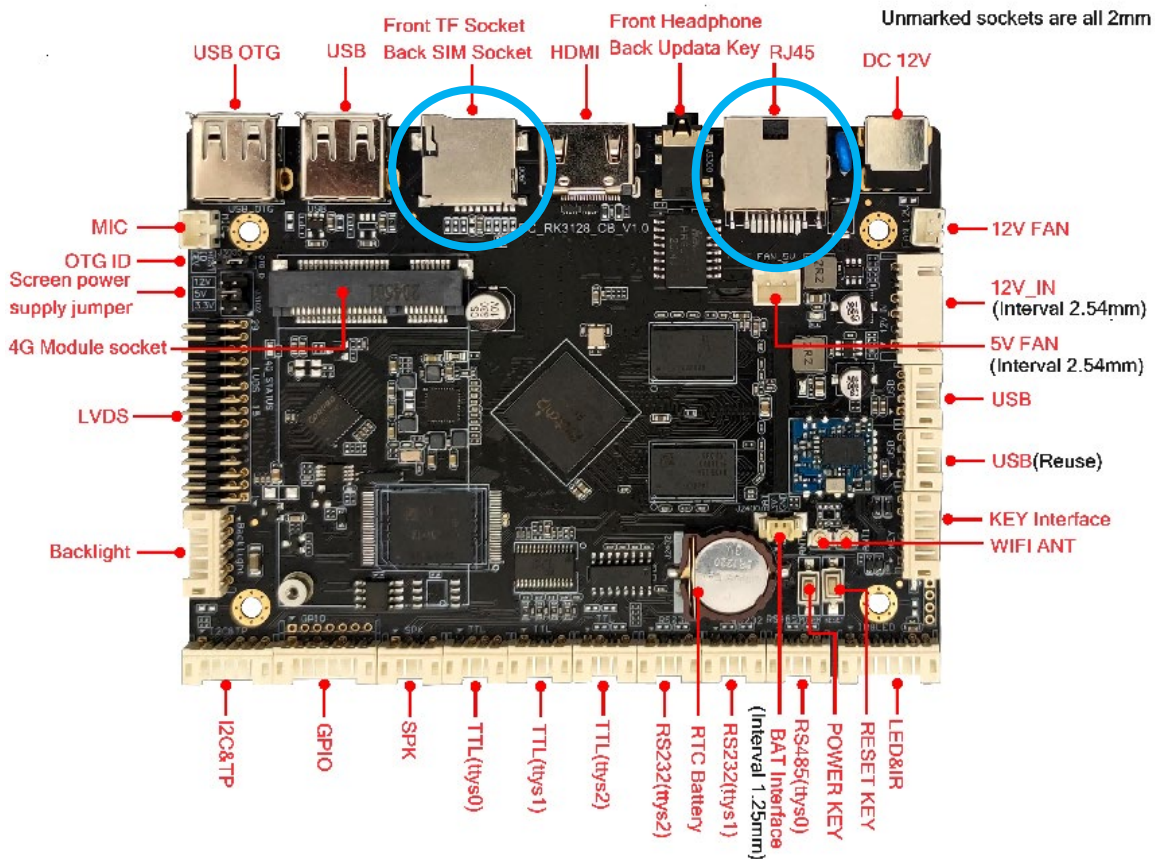

Figure 4.12 RJ45 Port, SIM Card Slot, and Other Ports on the Touch Screen Control Board
Refer to **Figure 4.12** for a diagram of the **touch screen control board** in general.
- To connect via an ethernet cable, plug the RJ45 plug of the ethernet cable into the **RJ45 connector** at the top right corner of the touch screen control board (see upper right part of **Figure 4.12**).